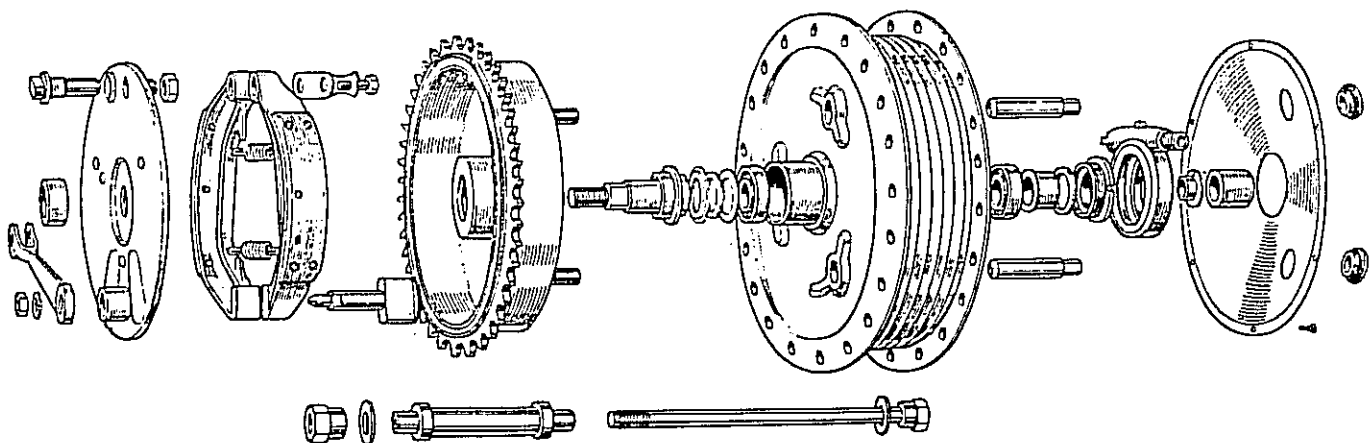
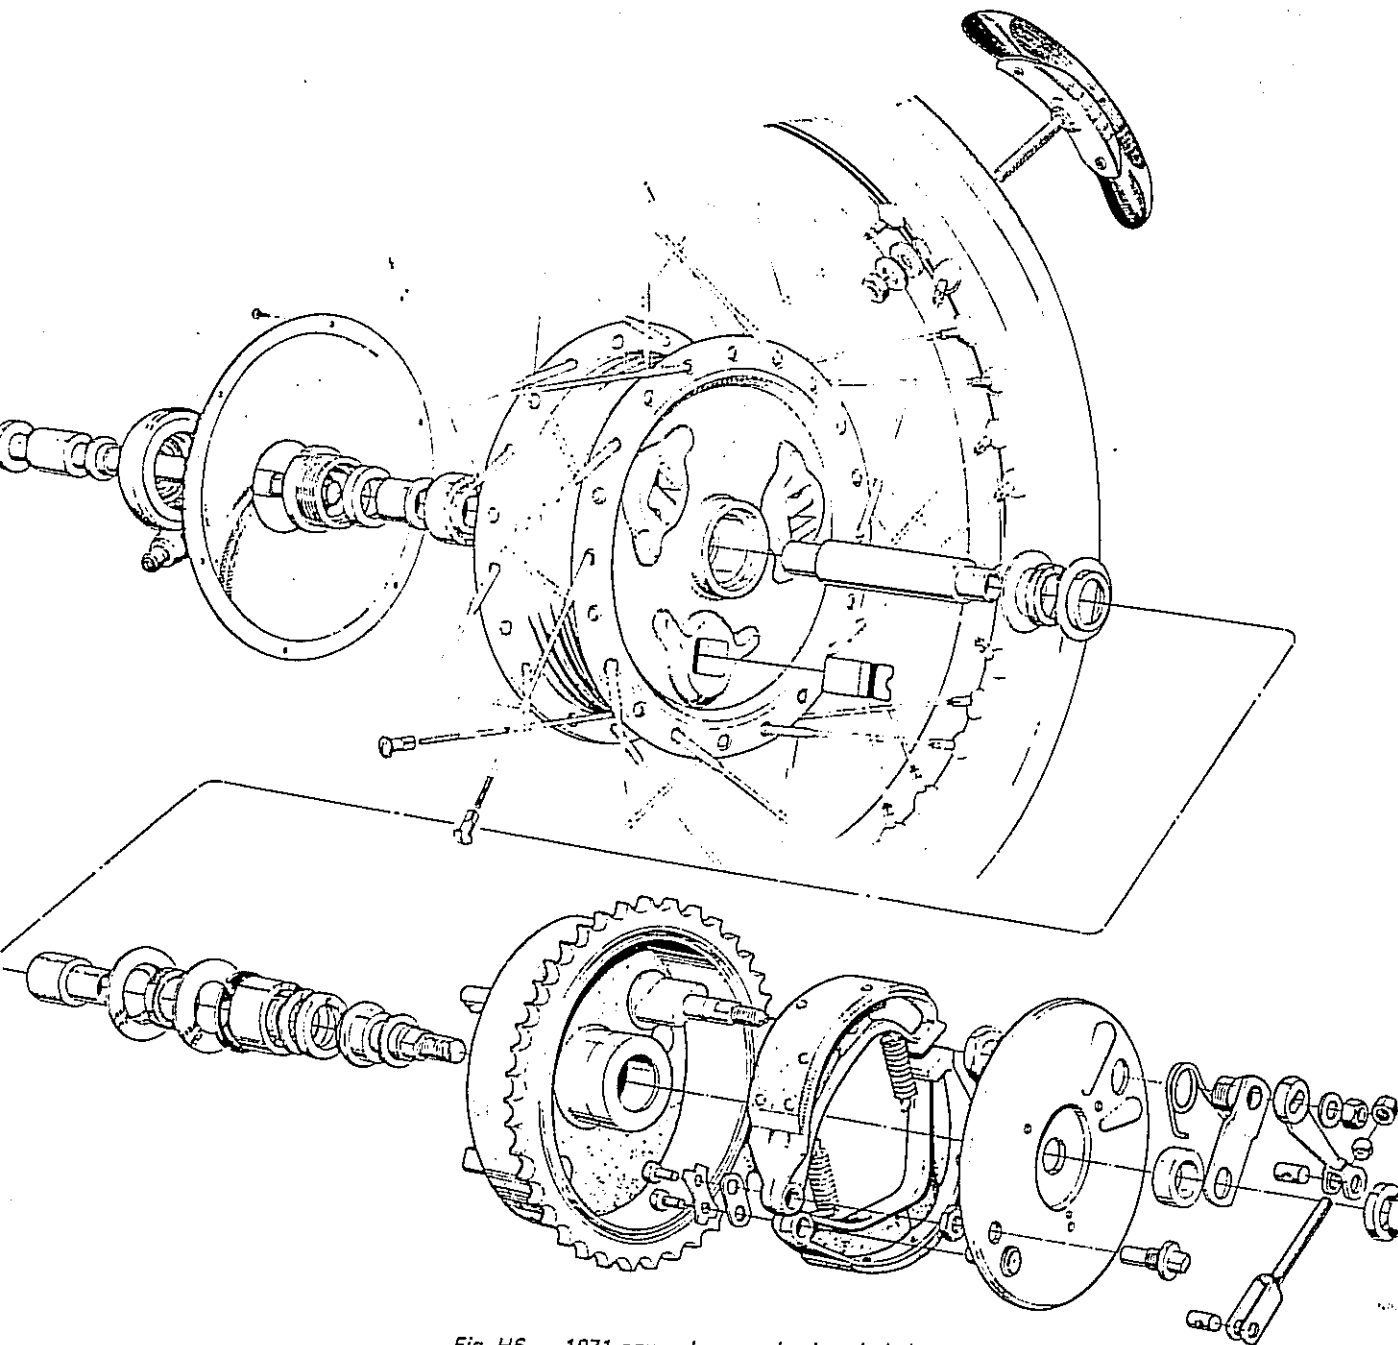

Fig. H5 1970 type rear wheel exploded
Fig. H6 1971 onwards rear wheel exploded
In order to change the wheel bearings, remove the wheel complete as described in Section H3. In the case of pre 1971 rear wheels without shock absorber, the wheel should be parted from the brake drum by removal of three extended nuts from the right hand side. On this type of wheel, illustrated in Fig. H5 there is no bearing in the brake drum. The wheel fitted to 1971 and later models should be removed complete as described in Section H3. With the wheel axle removed, separate the brake drum from the wheel hub – the "paddles" on the brake drum are merely a push in fit between the polyurethane shock absorber segments. On the 1971 type, a double row ball journal bearing is fitted to the rear brake drum. The bearing arrangement differs between 1971 and earlier models in the wheels, as will be seen from Fig. H6, the later wheel containing an additional double row bearing in the brake drum but a pair of single row bearings in the wheel hub.
Pre 1971 models – See Fig. H5.
**1971 and later models** – See *Fig. H6*.